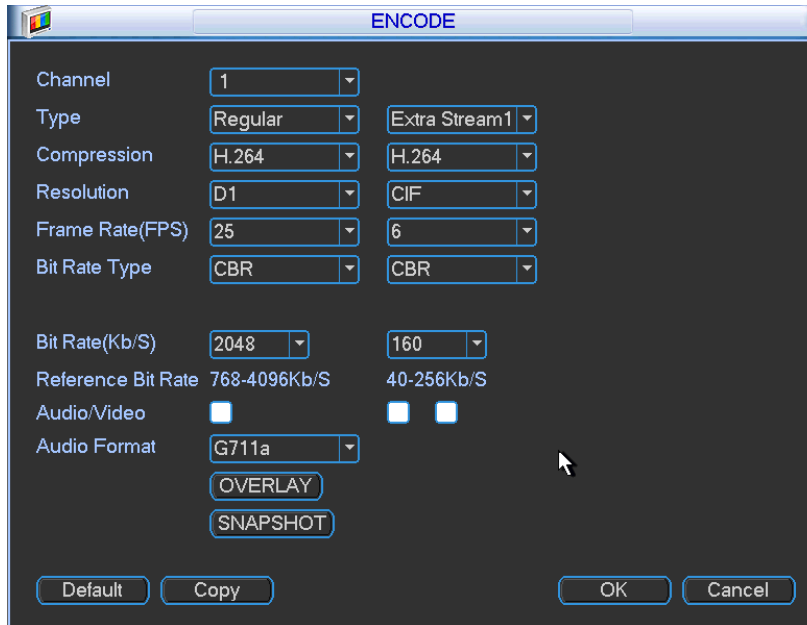
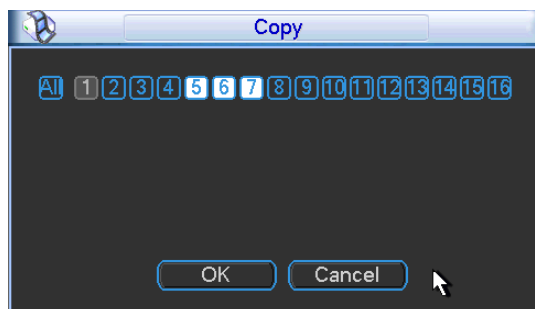

Figure 5-6
Figure 5-8
Encode setting includes the following items. See Figure 5-6.
- ✂ Copy: After you complete the setup, you can click Copy button to copy current setup to other channel(s). You can see an interface is shown as in Figure 5-8. You can see current channel number is grey. Please check the number to select the channel or you can check the box ALL. Please click the OK button in Figure 5-8 and Figure 5-6 respectively to